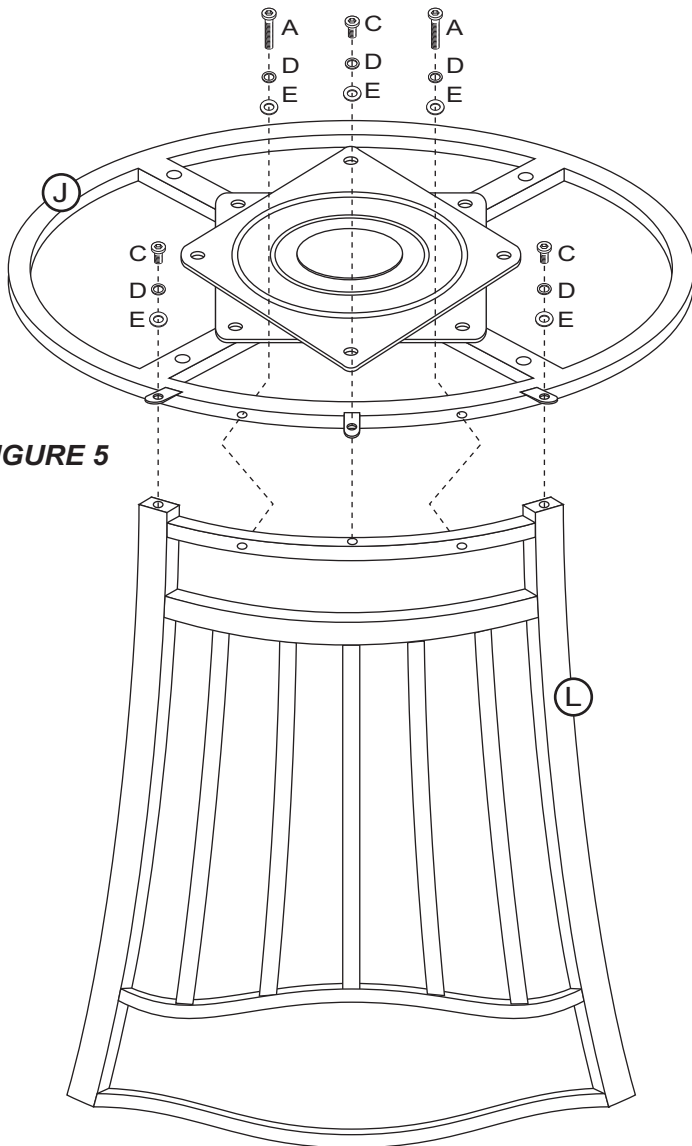

FIGURE 5
STEP 5 - See Figure 5
STEP 6 - See Figure 5